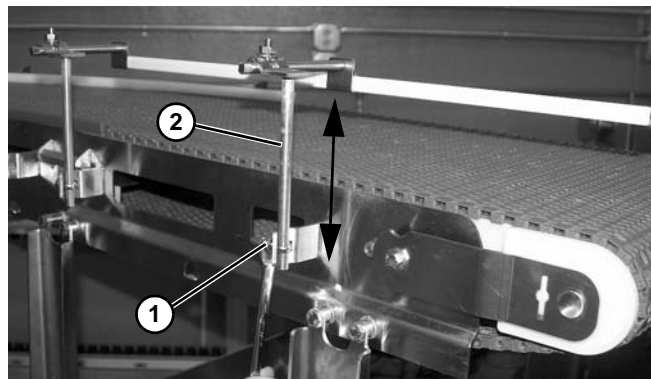

Figure 63
2. Loosen nut (Figure 63, item 1), and adjust the guide post (Figure 63, item 2) height, as needed. Tighten nut.